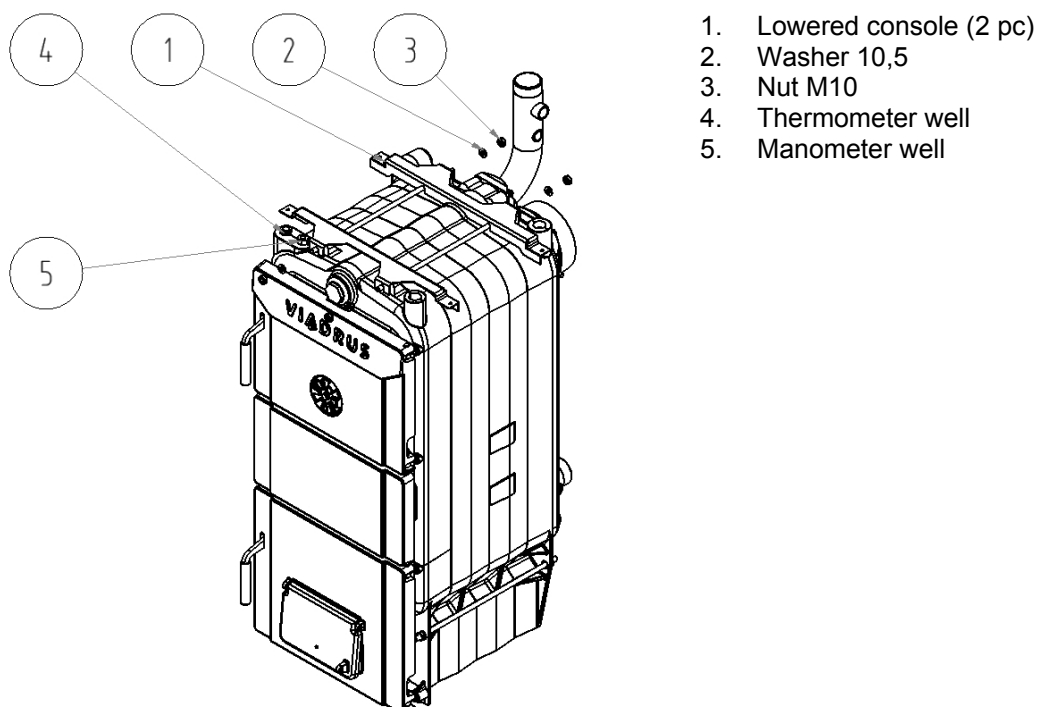

Fig.no.12 Mounting of boiler shell consoles
2. Put two lowered consoles(1) on the threads of upper anchor bolts and screw them by means of four nuts M10 (3) and four washers 10,5 (2) - (see Fig.no.12).
6. Insert the thermometer sensor into the thermometer well (4 – Fig.no.12) and screw the manometer into the manometer well (5 – Fig.no.12).